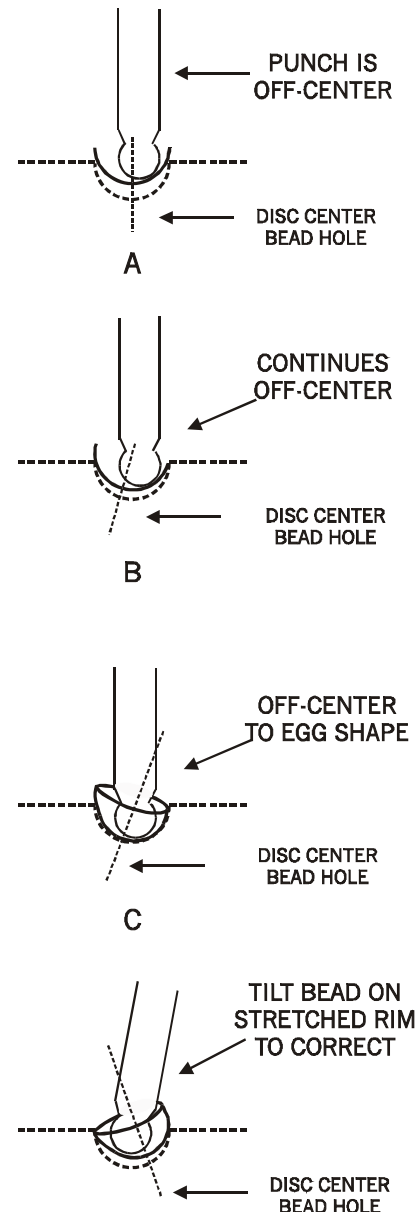

Fig. 6.14. Correcting an Off-center Dome.
- a. **Use the 7 mm punch** as the first punch in die #5. Start with a lighter hammer blow to partially move the disc downward, then another hammer blow to about mid-way, then punch straight down to the base of the die (**Fig 6.9B**). If the diameter of the disc is about 10.3 mm, and your hammer blow is on center, the disc edges will scrape inward past the die rim. However, this step is a critical point in doming because it takes some skill to keep the disc centered. (Also, refer to **Section D, Fig. 6.14** if the dome is off-center.) The diameter will be at the correct size, but the disc will not be fully conforming in the half-sphere die impression. The dome will be a “rounded cone” shape.